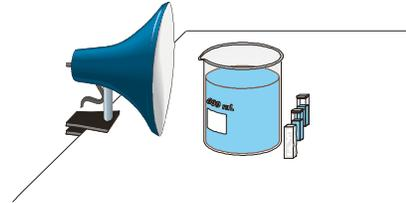

Figure 2
7. Obtain a 600-mL beaker filled with water and a flood lamp. Arrange the lamp and beaker as shown in Figure 2. The beaker will act as a heat shield, protecting the chloroplasts from warming by the flood lamp. Do not turn the lamp on until Step 11.
- a. Cuvette U: Add 3 drops of *unboiled* chloroplasts. Place the lid on the cuvette and gently mix; try not to introduce bubbles in the solution. Place the cuvette in front of the lamp as shown in Figure 2. Mark the cuvette’s position so that it can always be placed back in the same spot.
- b. Cuvette D: Add 3 drops of *unboiled* chloroplasts. Place the lid on the cuvette and gently mix; try not to introduce bubbles in the solution. Place the foil-covered cuvette in front of the lamp as shown in Figure 2 and mark its position. Make sure that no light can penetrate the cuvette.
- c. Cuvette B: Add 3 drops of *boiled* chloroplasts. Place the lid on the cuvette and gently mix; try not to introduce bubbles in the solution. Place the cuvette in front of the lamp as shown in Figure 2. Mark the cuvette’s position so it can always be returned to the same spot.